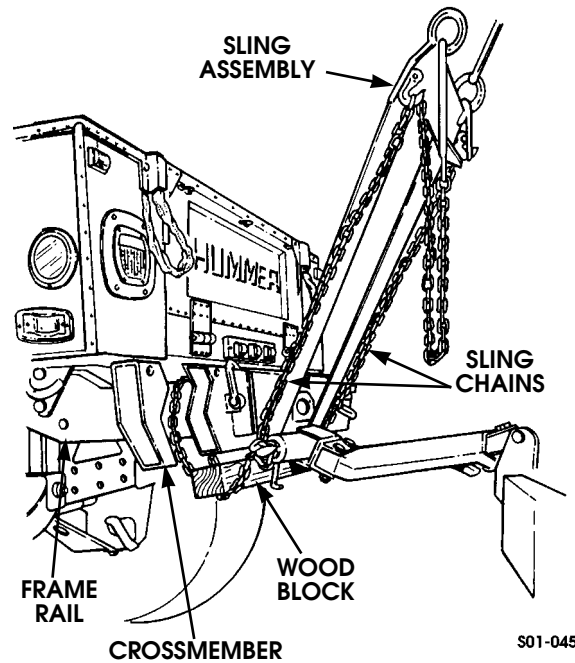

Figure 1-17: Rear Towing with Conventional Equipment
1. Loop sling chain around frame rails adjacent to rear cross-member and secure to tow sling (Figure 1-17).
2. Insert 4" x 4" x 48" length of wood between bumper and sling chains (Figure 1-17).